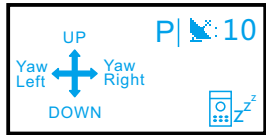

Figure 11-1:Remote Controller Sleep Mode
- When the remote controller is not operated for a long time (more than 15 minutes),it will automatically turn into sleep mode (the screen displays as shown in Figure 11-1),and you cannot directly control the drone.The drone will remain hovering.